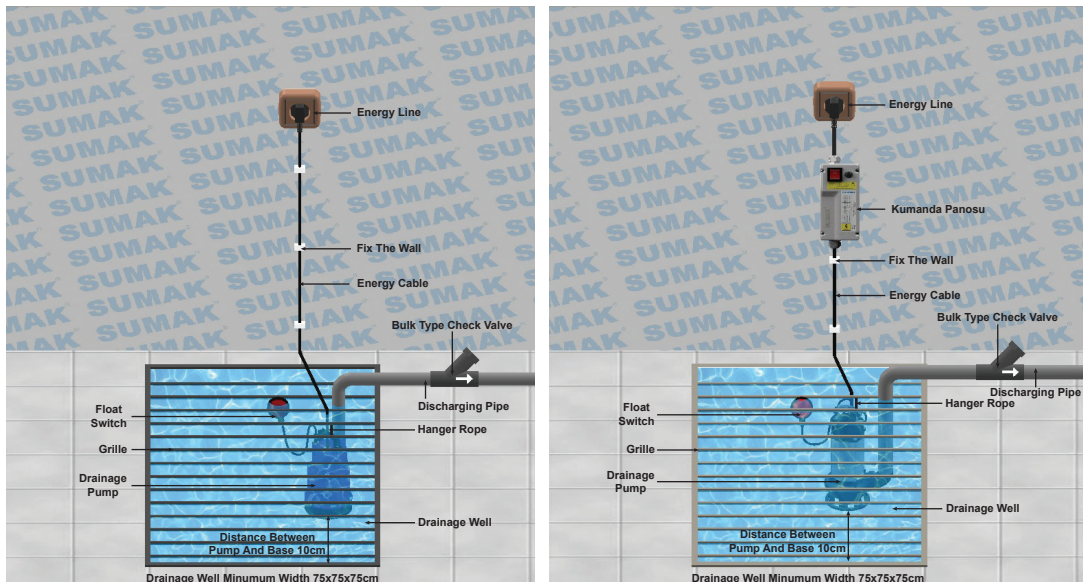

Figure 1
- 6- Assemble the pump according to Figure 1 on Page 7.
- 32- Please check Figure 1 in Page 7 and Figure 3-4 in Page 12 for usage of pump and assembly information while mounting, check Figure 5-6 in Page 13 and Figure 7 in Page 14 for working mechanism of the float switch, Figure 8 in Page 21 for electric connection, Figure 9 in Page 39 for life security warnings.